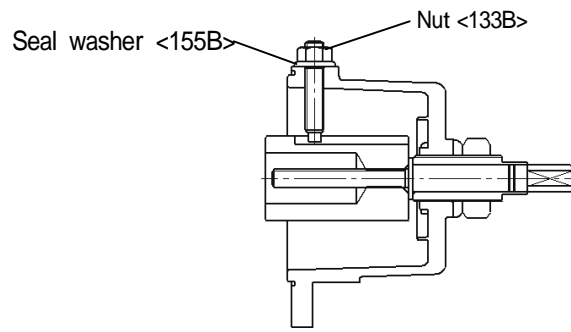

Fig.30
(7) Ensure that the end of the set screw tightly contacts the bottom of the guide groove, rotate the set screw reversely by a turn, and tighten it with the seal washer and the nut (**Fig.30**).